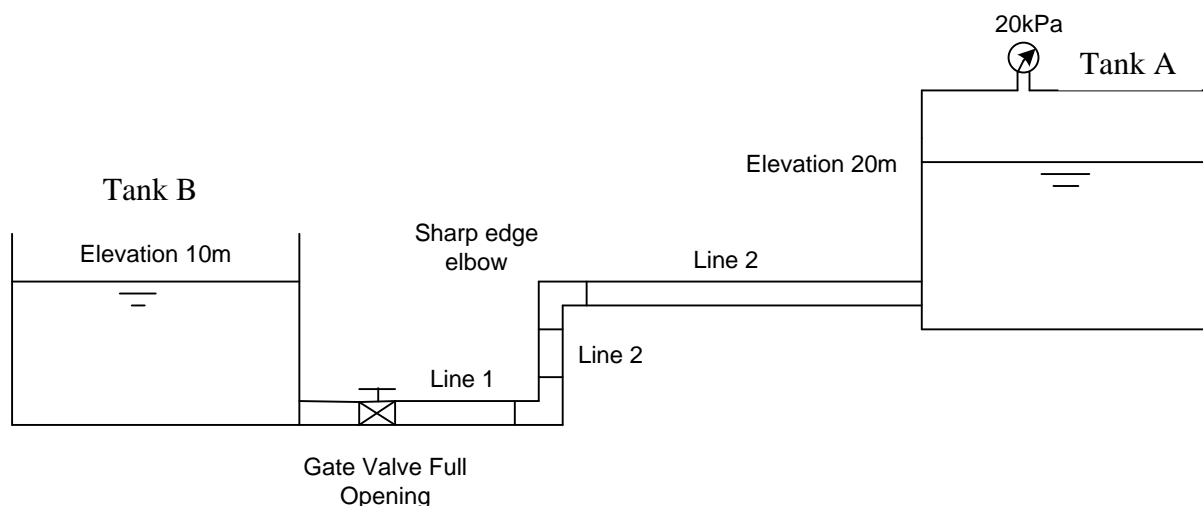

Figure Q5[a]
- [c] The piping system as shown in Figure Q5[a] is used to transport the liquid ($s = 0.85$, $\nu = 1 \times 10^{-5} \text{ m}^2/\text{s}$) from tank A to tank B. Determine the flow rate of the system.**